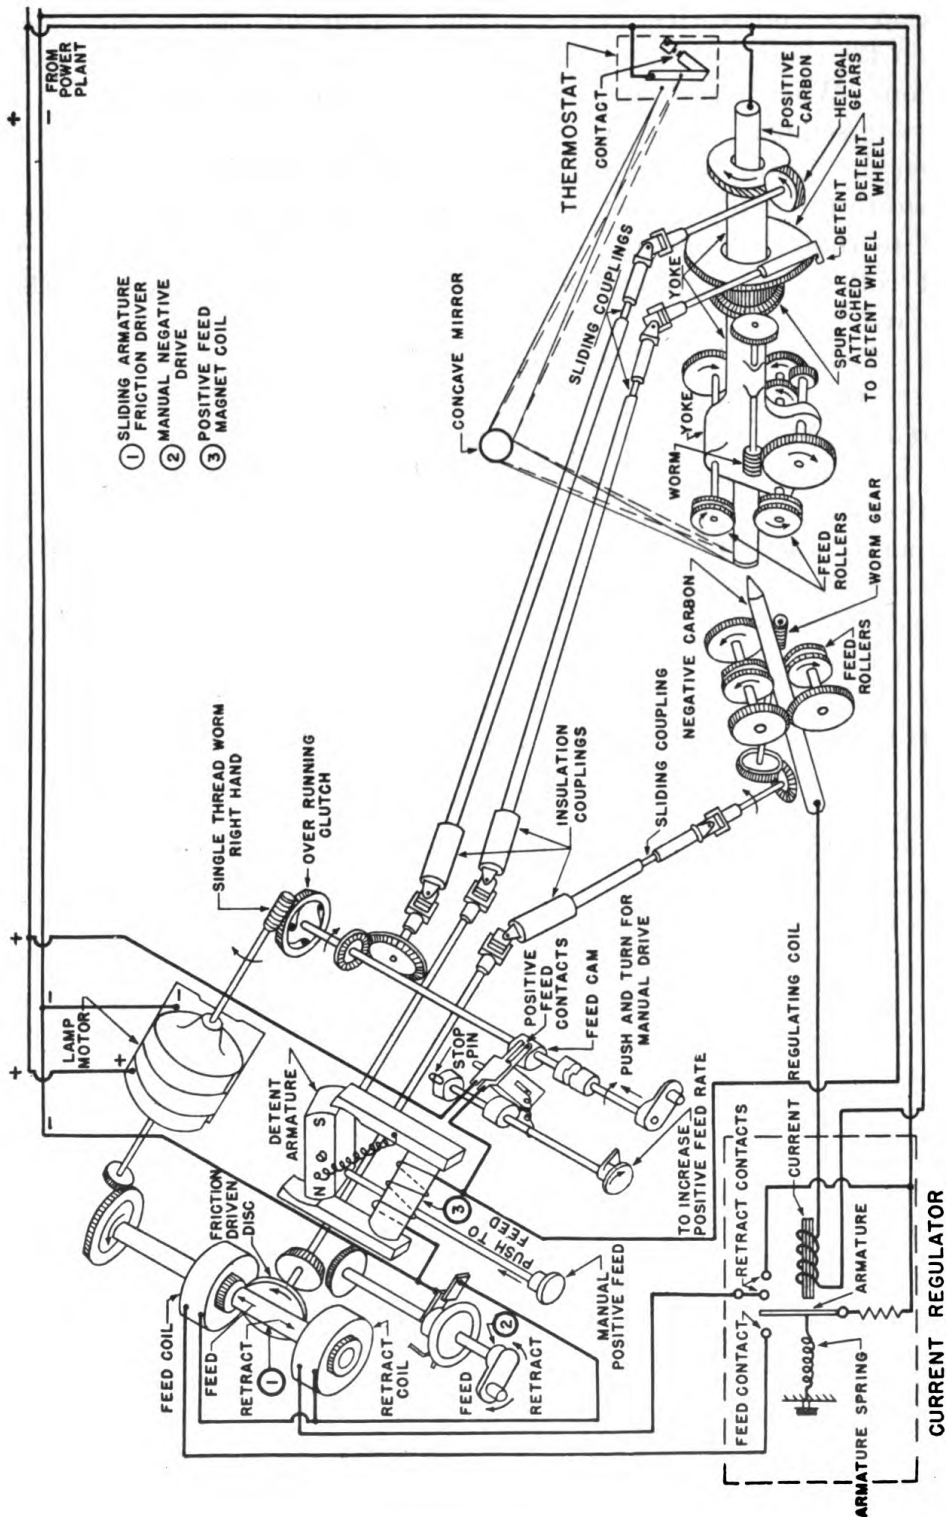

FIGURE 30.—Schematic diagram of General Electric lamp control mechanism and lamp mechanism.
(1) *Positive feed.*—See figure 30. The lamp motor, through a set of gearing and shafts, drives a helical gear on the positive head, which transmits a constant rotary motion to the yoke and positive carbon. When the detent is not engaged with the detent gear, the entire assembly, including the spur gear, rotates with the yoke. When the detent is engaged with the detent gear, the spur gear attached to the detent wheel is kept from rotating, causing the outside gear to rotate around the attached spur gear, thereby causing the feed rollers, through a worm drive, to feed the positive carbon forward.